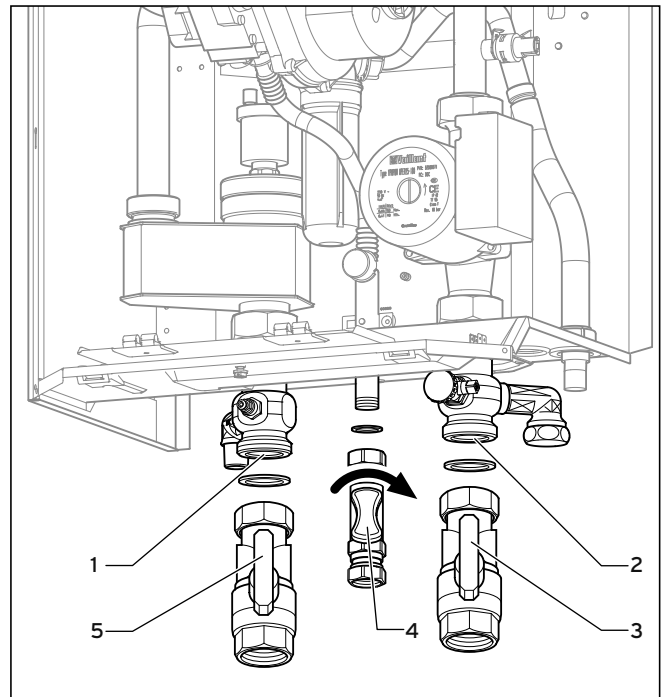

Fig. 5.9 Heating connection
- Screw the boiler's gas supply pipe (1) gas-tight with the gas isolation valve (5, see Fig. 5.9). To do this, use the R3/4 crimp connection supplied with the boiler. This is also suitable for the connection of a R3/4 gas isolation valve.